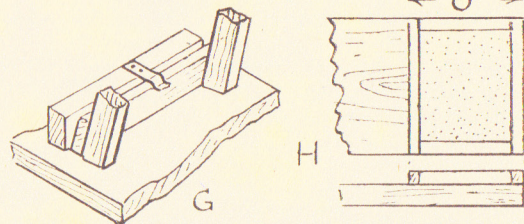

Fig. 3 - Holding clip for legs and the iron-rest
A metal spring catch is advisable, to keep the table, when opened out, in position. A simple affair in this, and sketched in detail (G) Fig. 3. It is a short piece of steel or springy brass, screwed